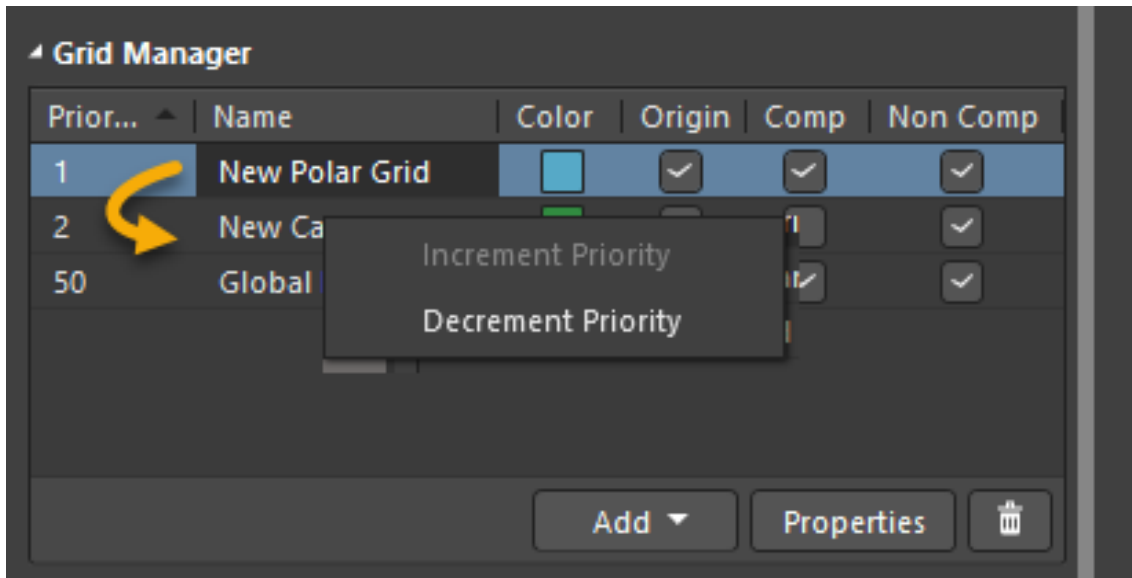

Figure 10. Priority for the Grids
35. The Grid Manager allows you to change the priority for the overlapping grids if needed as shown in Figure 10 below.